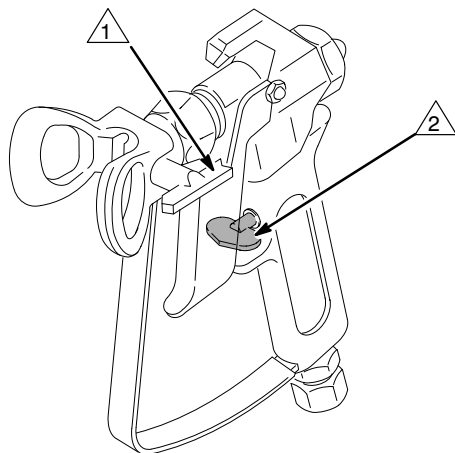

Fig. 5
1. If spray tip clogs, release gun trigger, engage gun safety latch, and rotate RAC IV handle 180°. See Fig. 5.